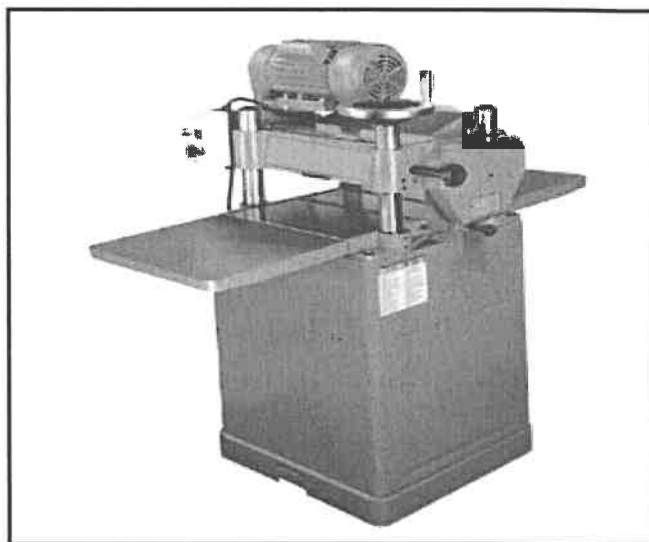

FIGURE 4.2
- 4.2 FIGURE 4.2 below shows a thickness planer. Study the picture and answer the questions that follow.